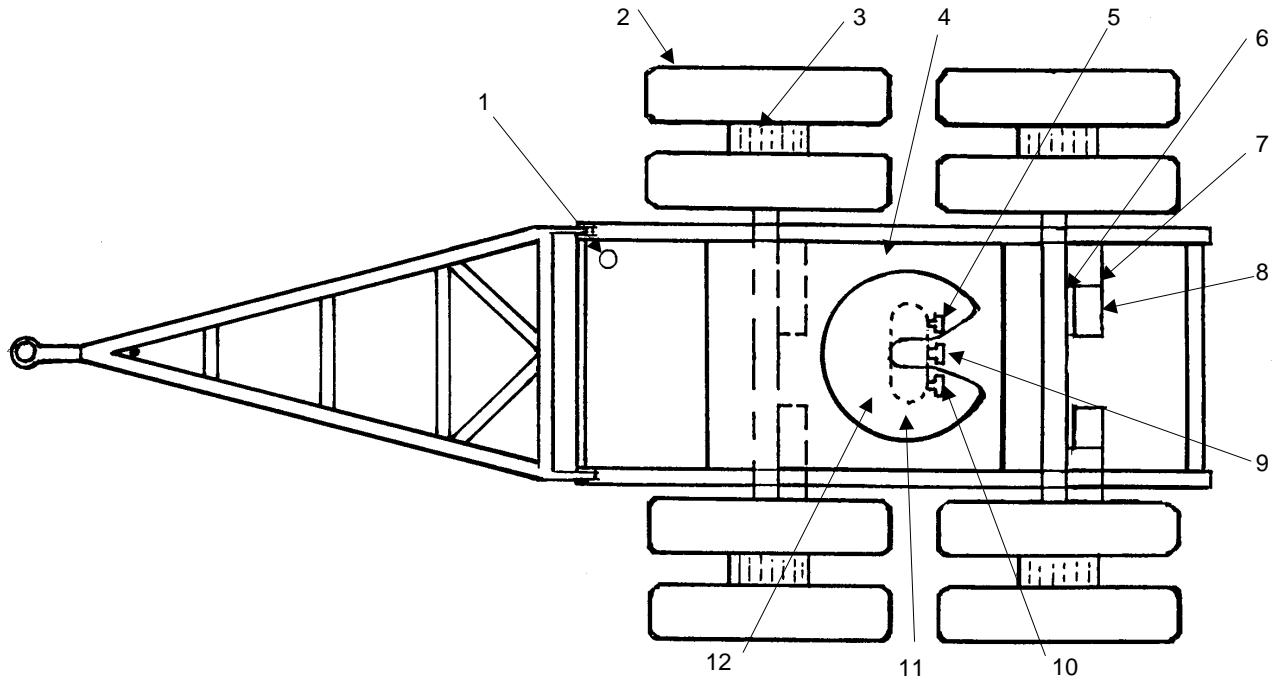

Figure 1 – Servicing Points for the Dolly
1. This EMEI lists the requirements for each level of servicing for the Dolly, Trailer Converter, Semitrailer, Heavy, MC4 Haulmark (dolly). Figure 1 shows the servicing points for the dolly and Table 1 details the servicing requirements for each level of servicing.
Note 1: Table 1 refers to Figure 1